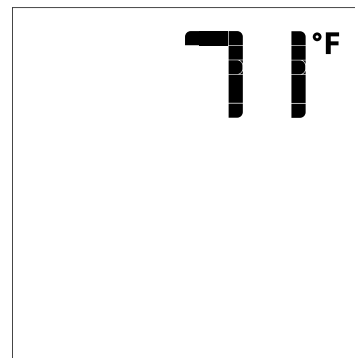

Figure 22
4. With the system ON, press the ON/OFF Key on the Transmitter. The Transmitter LCD display will show the room temperature. **See Figure 22.** At the same time the Receiver will turn off the appliance.